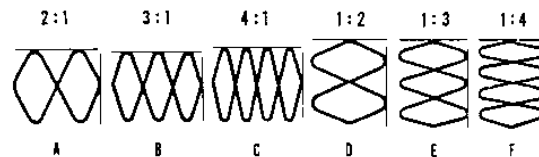

Figure 4. Lissajous Patterns
- Fig. 4. Lissajous Patterns.
In general to determine frequency ratio from the Lissajous figure, count the number of points of tangency to horizontal and vertical lines, drawn or imagined (see Fig. 4). Points of tangency at the top of the figures result from the unknown frequency applied to the vertical channel. Those at the side of the figure result from the known frequency applied to the horizontal axis. As a matter of fact, the following relationship holds true in all cases: